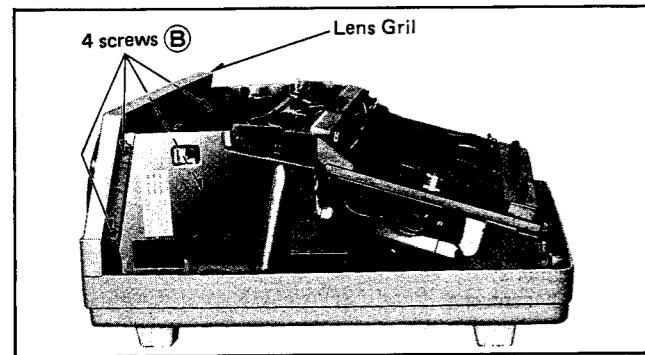

Fig. 3
- 1) Remove 4 screws **B** in fig. 3.
- 2) Remove the lens grill shown in fig. 3. (Remove 4 screws **B**).